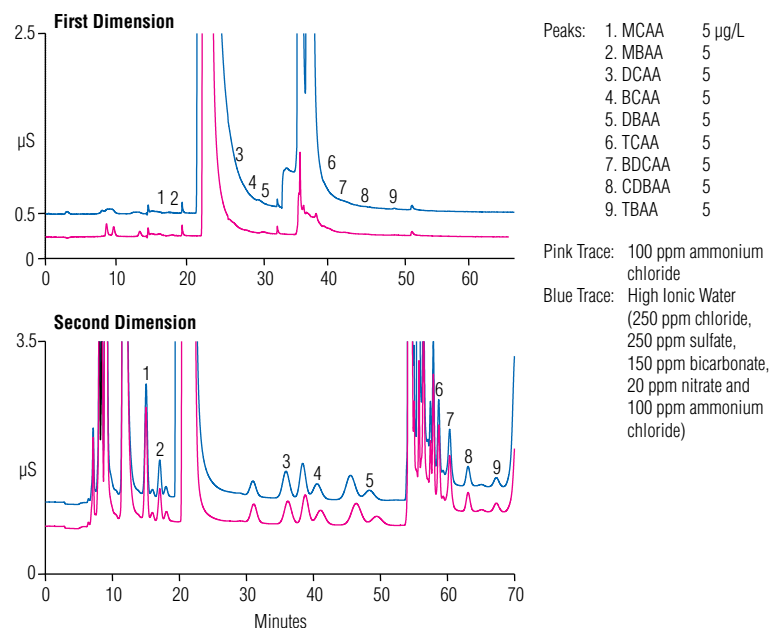

Figure 2. Determination of haloacetic acids using the Dionex IonPac AS24A and Dionex IonPac AS26 columns and 2D-IC.
The Dionex IonPac AS24A 4 mm column is designed for analysis of HAAs by 2D-IC in high-ionic-strength matrices. In the first dimension, the Dionex IonPac AS24A column provides the initial separation between the HAA anions and the major matrix ions, such as chloride, sulfate and carbonate. The matrix ions are diverted to waste while the HAA anions are concentrated on the Dionex IonSwift MAC-200 Monolith Anion Concentrator column. In the second dimension, the Dionex IonPac AS26 Capillary column provides the final separation of the HAAs prior to suppressed conductivity detection. Figure 2 shows determination of HAAs in a drinking water sample using a potassium hydroxide gradient delivered by the Eluent Generator (EG). Low µg/L (ppb) levels of haloacetic acids can easily be determined using 2D-IC.